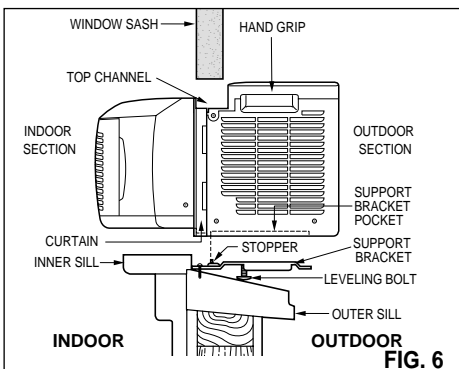

FIG. 6
- Make sure that support bracket is inserted in the pocket under base fan, and that curtain frame guide is stopped by stopper on the support bracket as shown in FIG.6.